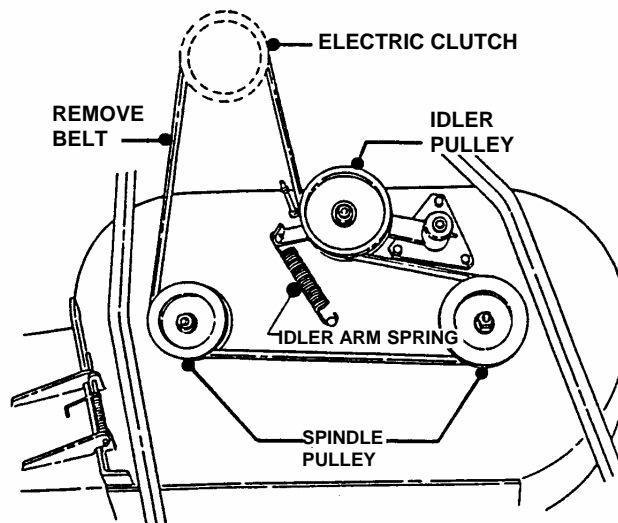

FIGURE 7.3
2. Remove idler spring and swing idler away from belt. See Figure 7.3.